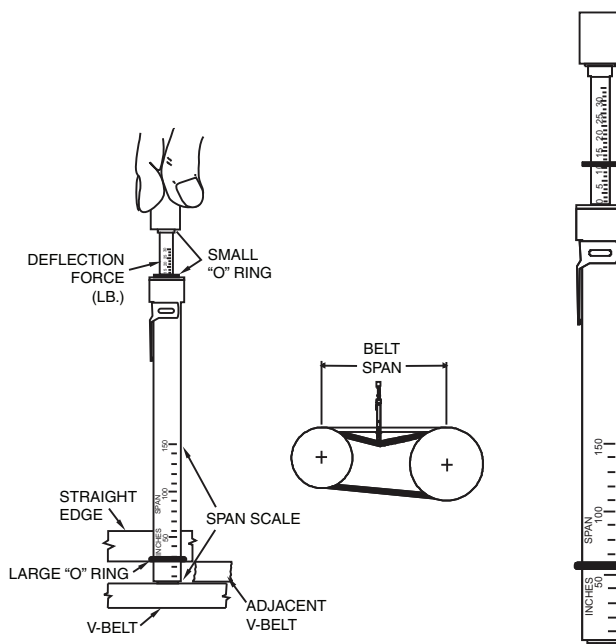

Fig. 56 — Fan Belt Tension
When installing or replacing belts, always use a complete set of new belts. Mixing old and new belts will result in the premature wear or breakage of the newer belts. See Fig. 56.
1. Measure the belt span (see Fig. 56).